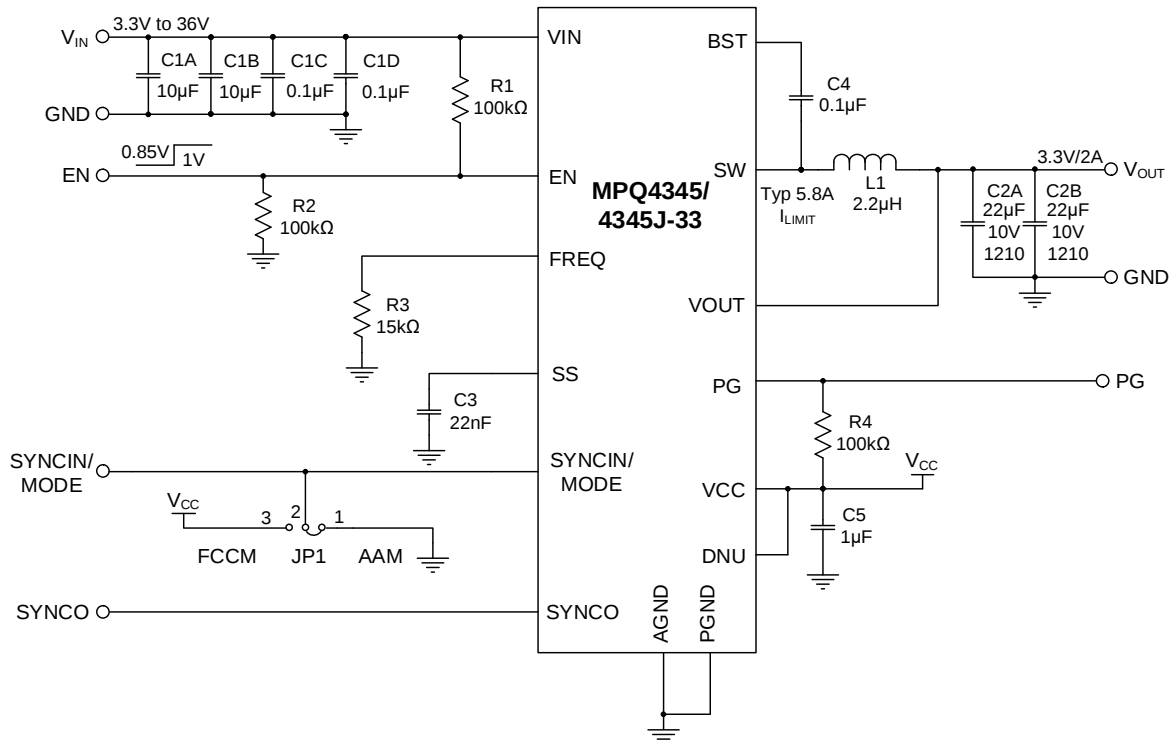

**Figure 9: Typical Application Circuit ( $V_{OUT} = 5V$ ,  $f_{SW} = 2.2MHz$ )**
- 12) The recommended PCB layout is based on Figure 9 on page 41.